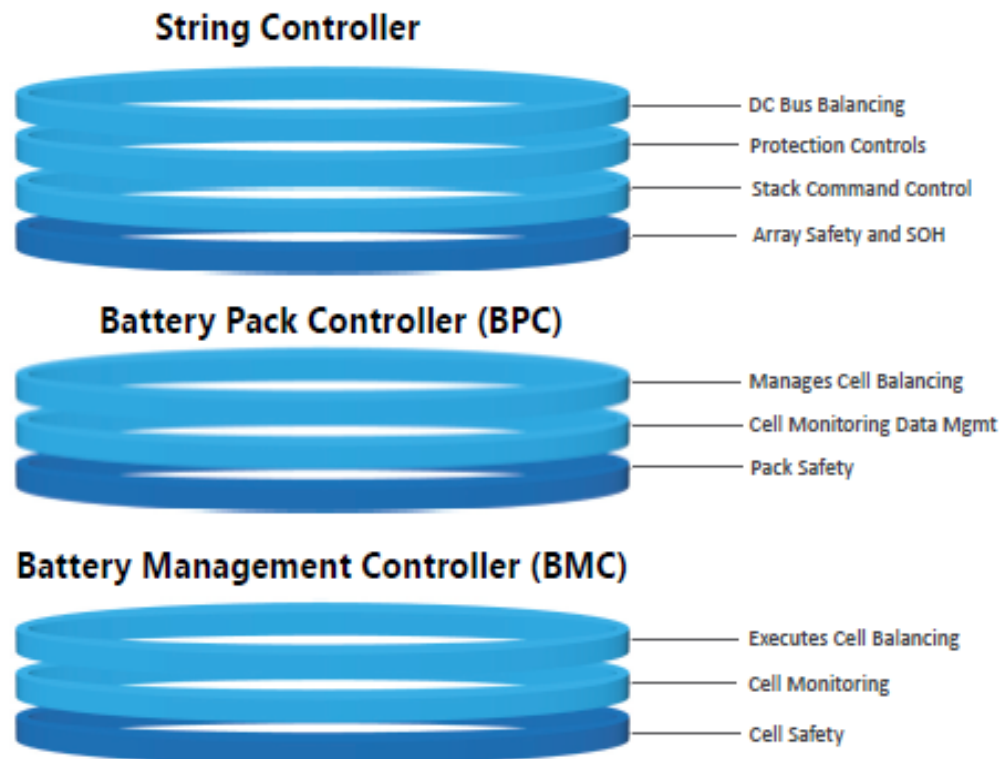

Figure 4 StackOS – A Layered Approach to Battery Safety
- Figure 4 StackOS – A Layered Approach to Battery Safety 7